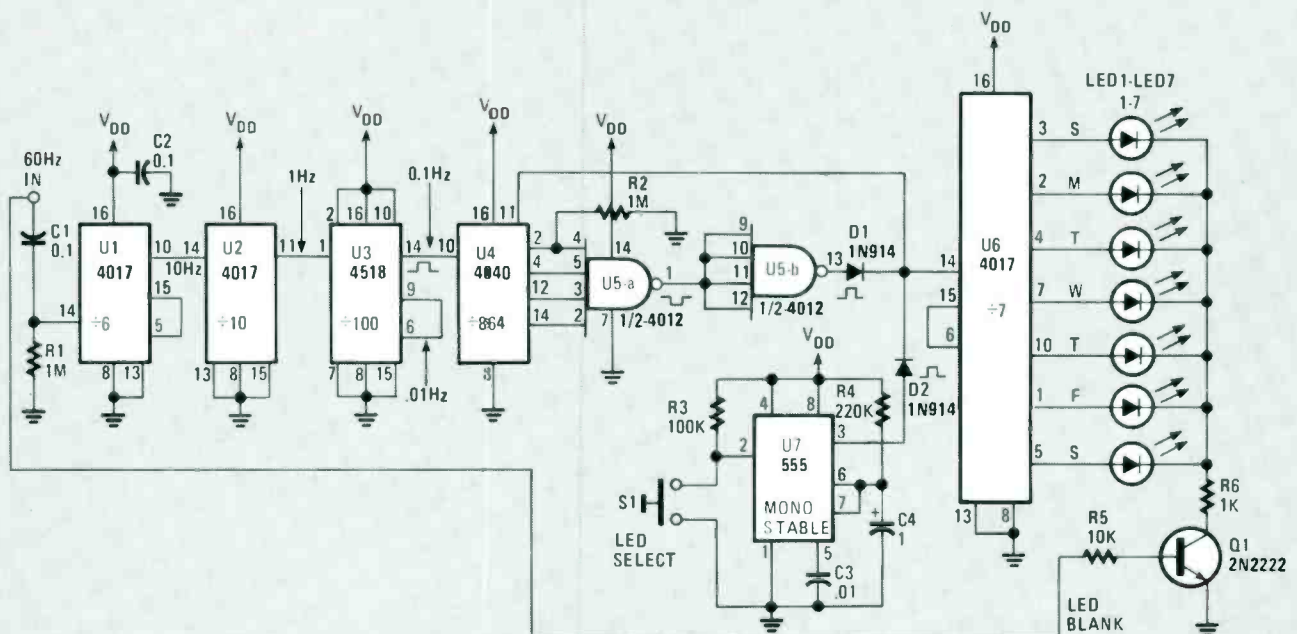

Fig. 1—The 60-Hz input signal goes through four divisions before being gated out.
Figure 1 is the schematic diagram of the unit. The 60-Hz signals taken from the clock are input to U1, a 4017 signal
The positive power-supply leg (see Fig. 1) has a one-ohm series resistance built-in so that the current drain for your particular circuit can be quickly calculated by measuring the voltage drop across the resistance. Since the resistance is one ohm, the current is easily calculated using ohms law which states the current is found by dividing the voltage drop that
Fig. 1—The letters denote jump off points on the printed-circuit board, although one is not necessary. The output current for the device can be measured as voltage across J2 and J1 as resistors R5–R14 resolve to 1-ohm.
Figure 1 shows a complete schematic diagram of the 7000 Mini FM Receiver. The integrated circuit (U1) is practically a complete FM receiver on a single silicon chip. The chip contains a local-oscillator and mixer, followed by a two-stage active IF filter. An IF limiter/amplifier feeds an FM demodulator, and an audio muting circuit is controlled by an IF waveform correlator. The few external parts required function primarily to determine the circuit's frequency range.
**Fig. 1—The integrated circuit (U1) is practically a complete FM receiver—containing a local-oscillator and mixer, a two-stage active IF filter and limiter/amplifier, FM demodulator, and an audio muting circuit—on a single silicon chip. The few external parts required function primarily to determine the circuit's frequency range.**